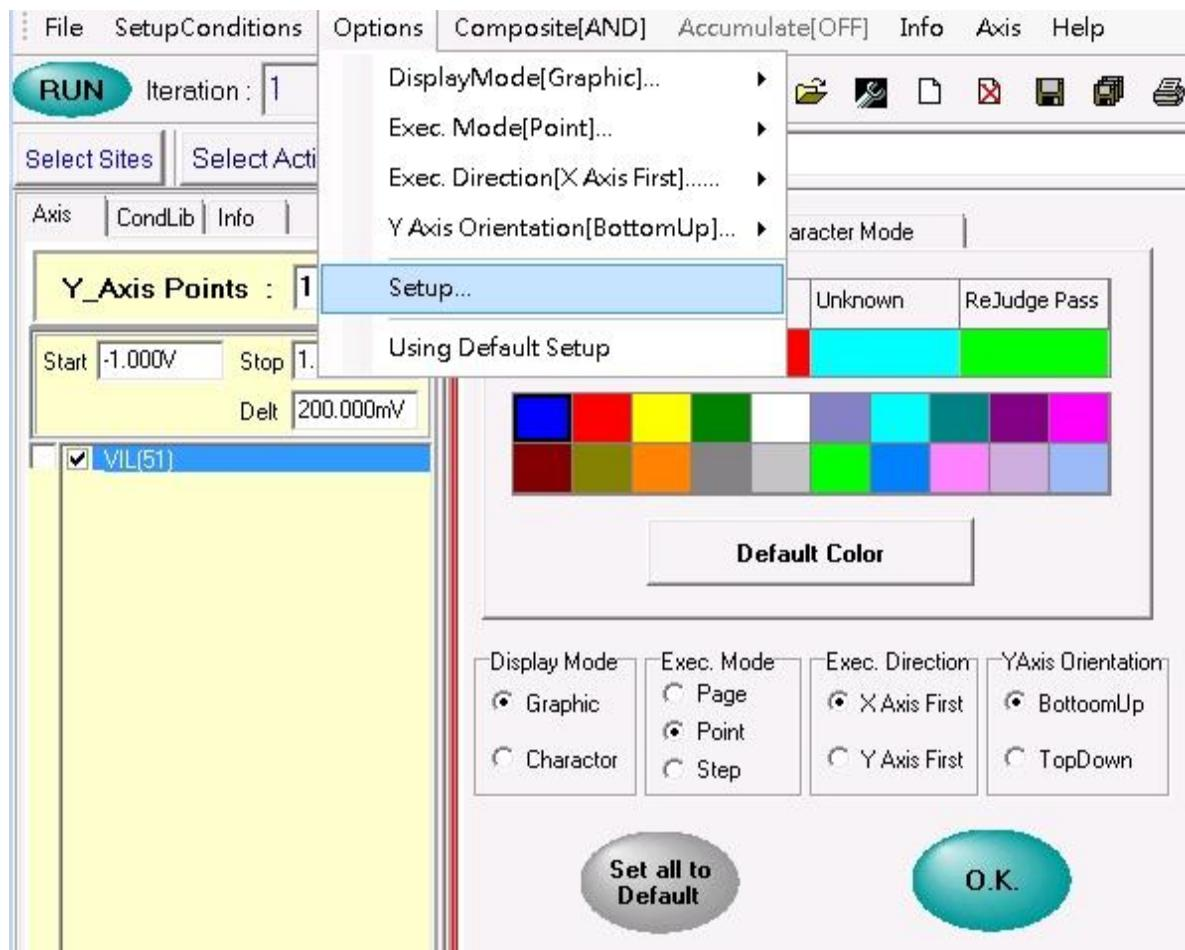

Figure 11-8 Reset all Options Window
- (1) When you click on Options in the Shmoo Plot window, a pull-down menu appears.
- (2) After selecting the “Setup...” item a reset all options window appears (Figure 11-8).